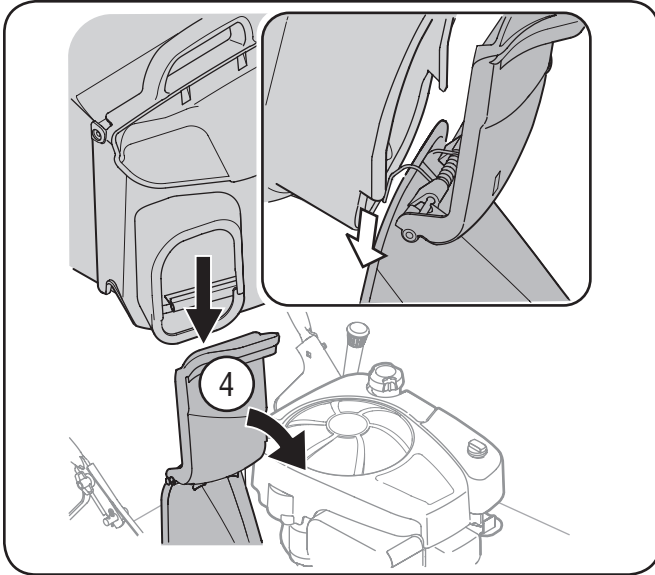

Figure 3-6
- Lift chute door on the grass bag adapter and slide grass bag onto the adapter. See Figure 3-6.